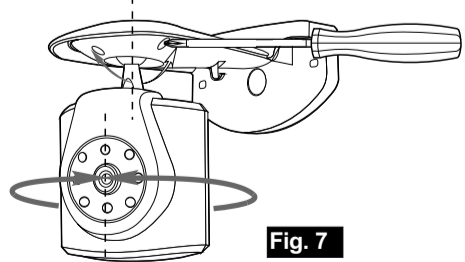

Fig. 7
1. Adjust the camera's viewing angle according to the illustrations of Fig. 7.